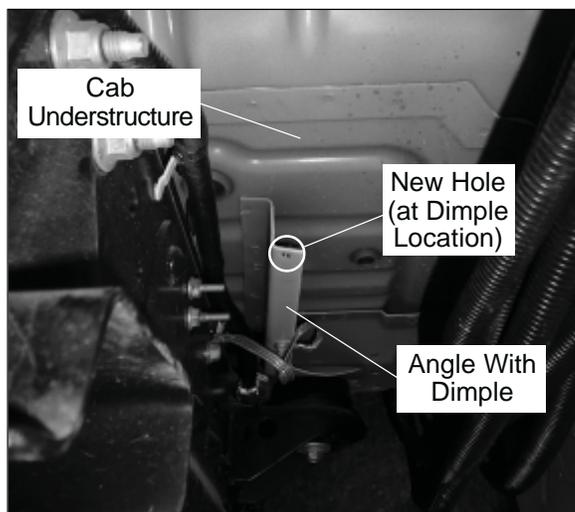

Figure 5 — Hole On Cab Understructure Angle
10. Drill a $\frac{5}{16}$ " diameter hole in the chassis cab understructure angle (refer to Figure 5). There is a stamped dimple at the end of the angle that should be used for the hole location.